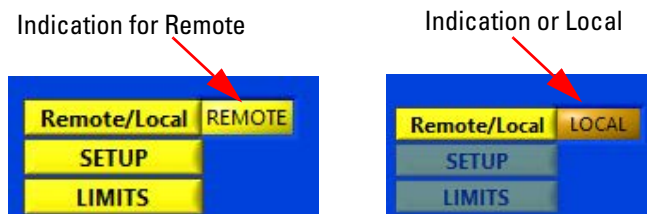
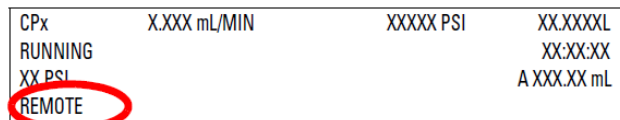

Figure 6: Remote/Local Indication
Figure 7: Controller display
5. The box to the right of Remote/Local button should read either Remote or Local (See figure 6). Click on the Remote/Local button to toggle from Local to Remote for remote control. The controller screen should also show Remote on the lower left hand corner (See Figure 7).